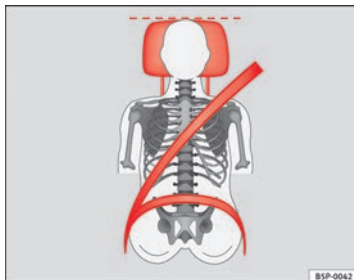

Fig. 12 Correct seat belt and head restraint positions, viewed from front
- The shoulder part of the seat belt must lie on the centre of the shoulder, never across the neck. The seat belt must lie flat and snugly on the torso ⇒ Fig. 12.